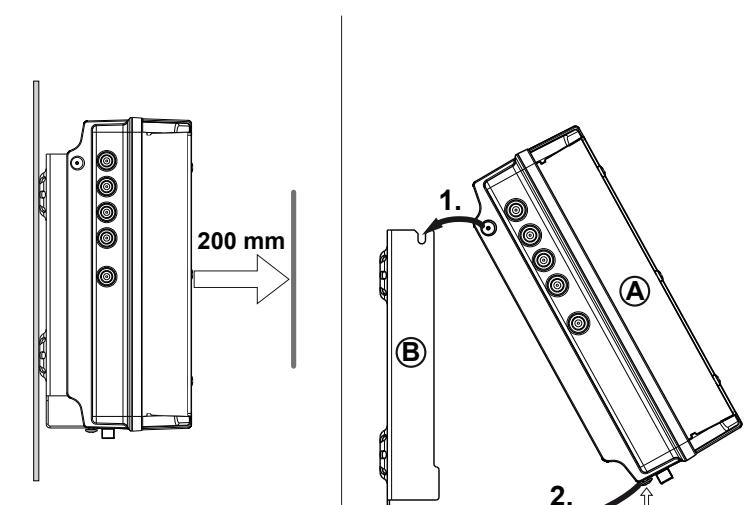

Fig. 3: Insert the head-end
1. Mount the wall mounting plate horizontally on the mounting surface; see ⑧ in Fig. 3. Points to note:
2. Insert the head-end ⑨ into the wall mounting plate ⑧; see Fig. 3.
3. Tighten the screw ⑩.